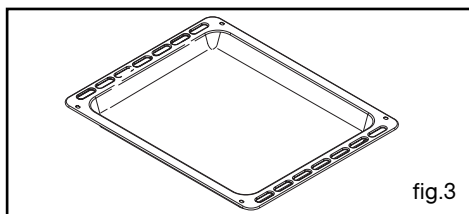

fig.3
• Plat lèchefrite multi-usages fig.3